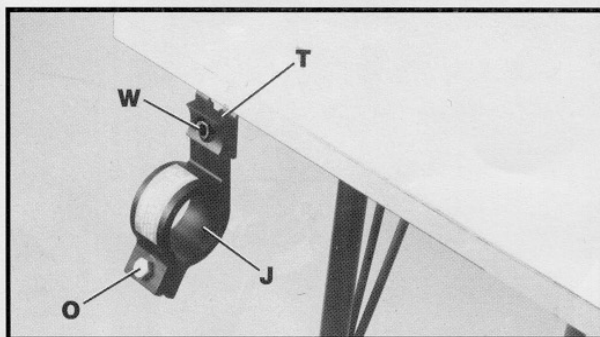
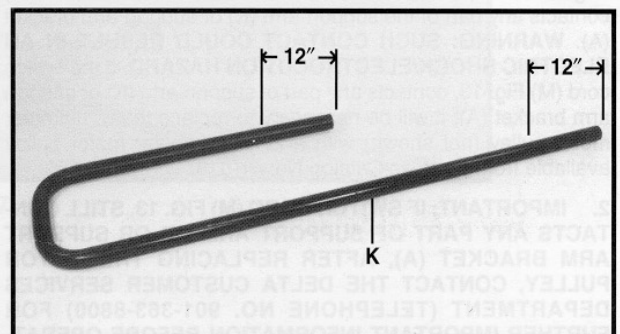

Fig. 8
Fig. 9
3. Assemble remaining support arm holder (J) Fig. 8, to support bracket (T) with 1-1/4 inch-long socket head screw (W) and hex nut.
4. Assemble 1-1/2 inch-long hex head screw (O) Fig. 8, with flat washer, lockwasher and hex nut to support arm holder (J) as shown. **NOTE:** Do not tighten hardware at this time. **IMPORTANT:** If you have a 30" Unifence with an accessory 34-914 table or a similar size table and would like a more compact Uniguard due to space limitations, you can safely cut-off **up to 12"** from each end of support arm (K) Fig. 9. Insert long end of support arm (K) through the three support arm holders and snug up all mounting hardware at this time. **NOTE:** Long end of support arm (K) Fig. 9, should extend at least 1/2" beyond right support; however this dimension can vary depending on the capacity you desire on the right side of the blade.